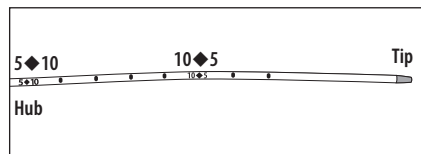

Figure 2
- Double numbering pattern (refer to Figure 2).